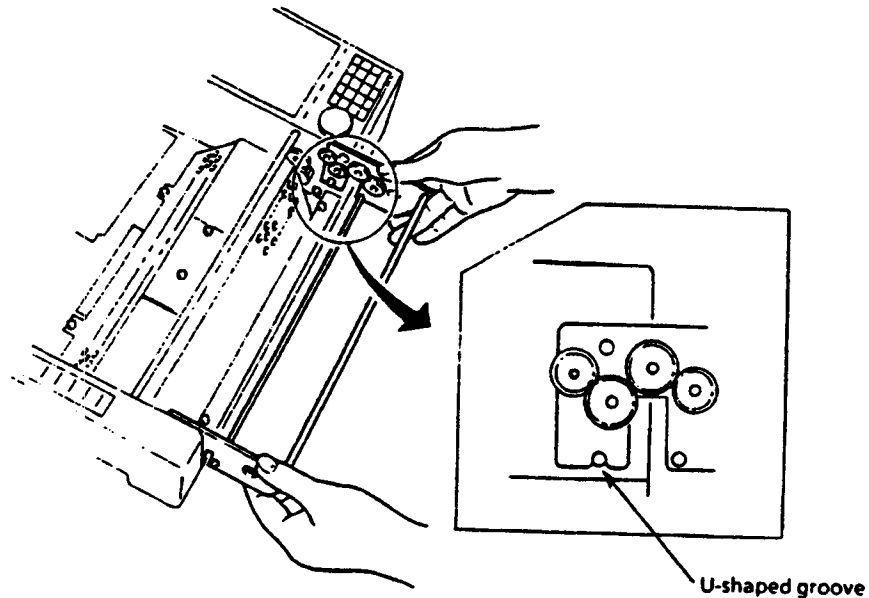

Figure 6.21
2. Mate the U-shaped groove parts at the right and left bottom of the chart reroll unit metal attachment with the projections to the recorder side panels (Figure 6.21)